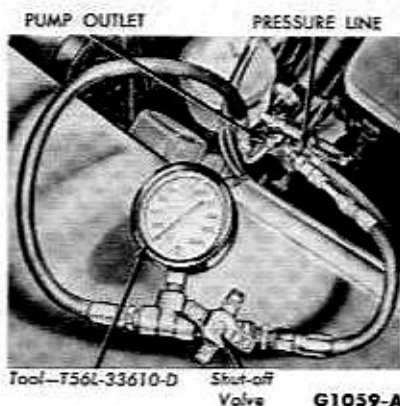

FIG. 5—Pressure Testing Tool Installation
1. Disconnect the pressure line hose from the pump outlet, and install the pressure testing tool between the hose and the pump outlet (Fig. 5). Be sure that the pressure gauge is between the pump and the shut-off valve on the tool.